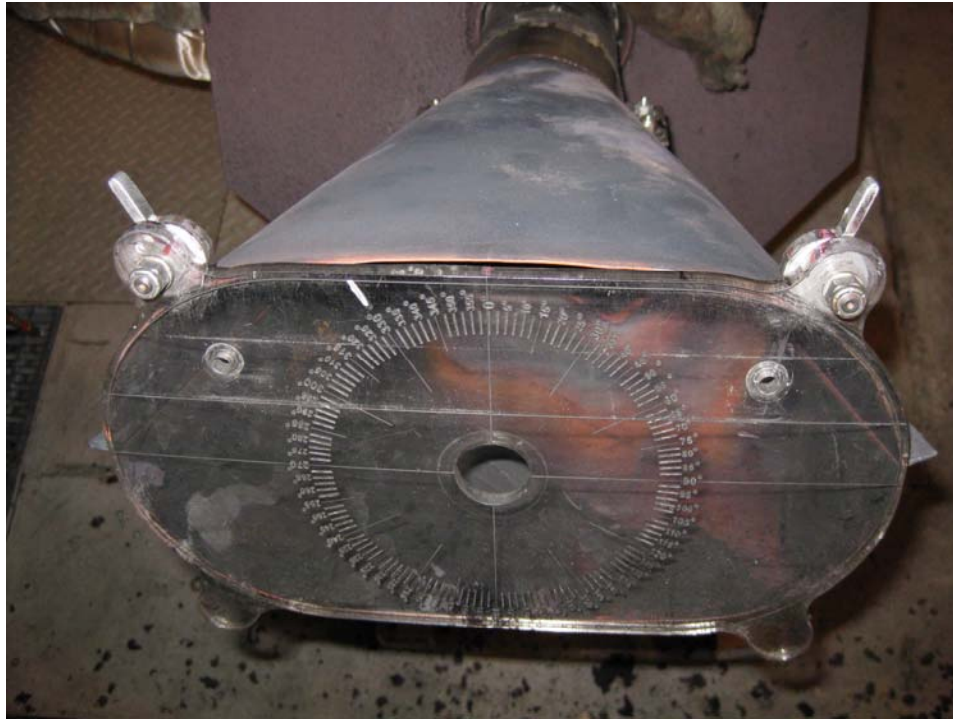

Figure 8: Burner Faceplate Tool on Cone
- Center burner faceplate tool over face of burner cone using cam “ears” (figure 8). The cam ears allow for a best fit of the faceplate over the cone, as minor cone distortion is normal. Using silver pencil, transfer centerline from faceplate to burner cone.